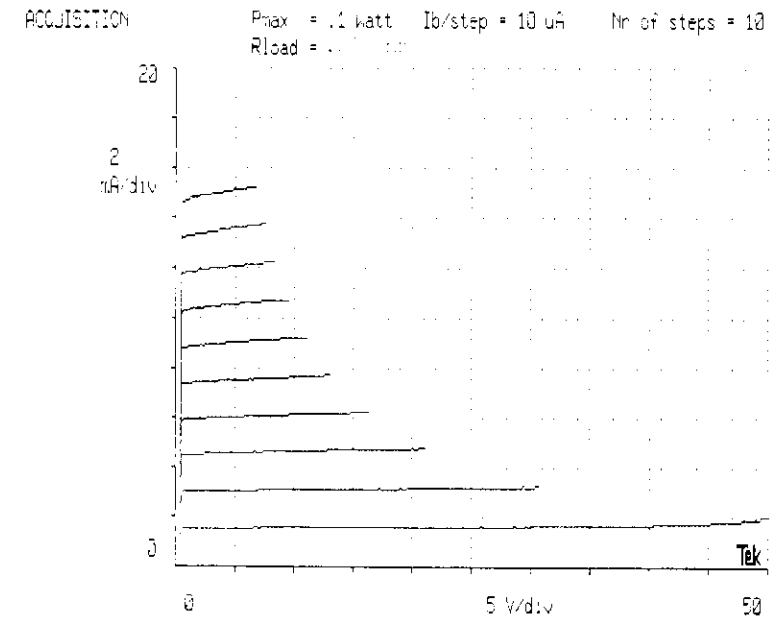

Figure 3-8: Power curve
Step 3. Press START and notice the curves end along a hyperbola. (Figure 3-8)